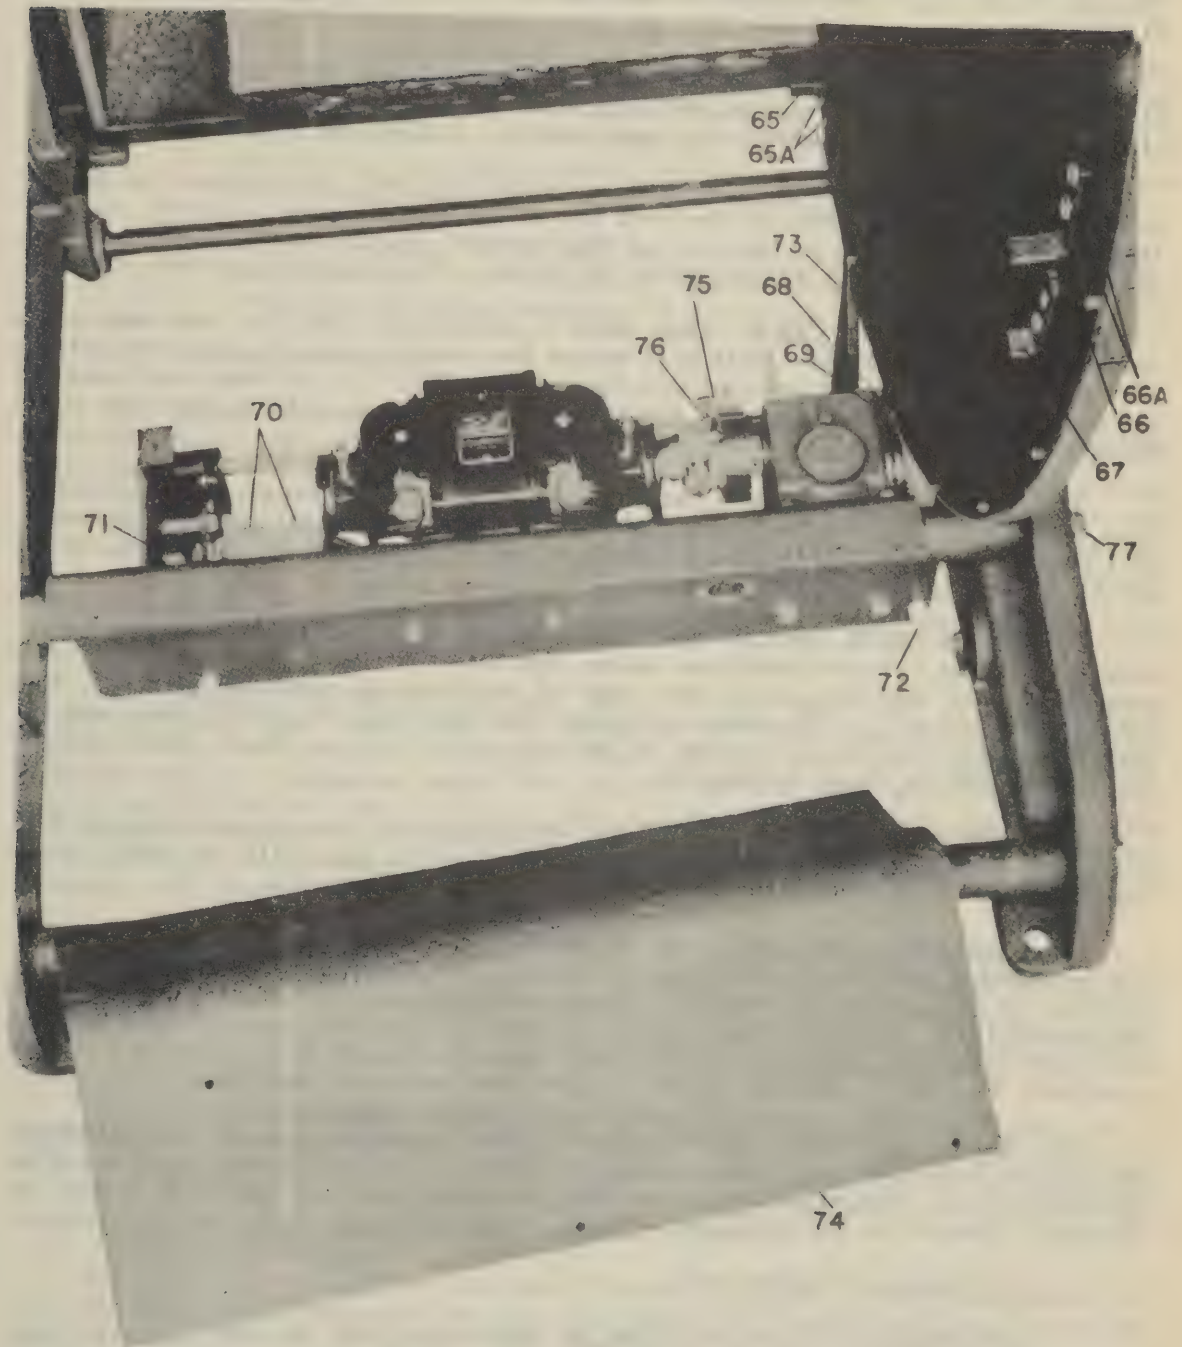

FIG. 8
28. MOTOR DRIVE CENTURY - The installation of the motor drive Century unit is exactly the same as that for the hand rock Century except that the motor supply line must be connected. To do this, remove the cover #74 Fig. 8 and connect the motor line cable at the terminal panel #70, and clamp it by means of the clamp at #71. Replace the cover #74, making sure that all screws are drawn up securely. It would be well at the time of installation to add a few drops of a good grade of machine oil to the motor. A few drops of oil should be added to the motor every six months.
38. MOTOR DRIVE CENTURY-VERTICAL POSITION - If the tilt table does not stop in the true vertical position, loosen the screws at #65A Fig. 8 and shift the stop #65 toward the foot end of the table if the table is short of vertical, and toward the head end if the table is beyond the vertical. Several trials may be necessary before the final position of the stop #65 Fig. 8 is found. Be sure that the screws #65A are drawn up securely.
40. HORIZONTAL POSITION - If the table stops consistently below or above the horizontal position regardless of whether the table is operating from the vertical to horizontal or from the Trendelenberg to horizontal, then adjust the horizontal lever stop #67 Fig. 8 until the head of the table stops 33-1/4" above the floor without a patient. If the table is made to stop a little high without a patient, then with a patient it will stop at the horizontal position.
41. If the table stops below horizontal when coming up from the Trendelenberg position or above horizontal when coming down from the vertical, or vice versa, then the #10-32 Allen head adjusting screws #68 and #69 in the lever #73 Fig. 8 must be adjusted. Proceed in the following manner:
42. BRAKE ADJUSTMENT - If the table has a tendency to coast, particularly with a heavy patient, then the brake must be adjusted. Remove the cover #74 Fig. 8 and loosen the nut at #76 and back out the screw at #76 bearing against the brake lever #75. Usually about one-half turn of the screw will be sufficient. Be sure that the lock nut at #75 is tightened and check operation of the table. Extreme care must be observed in making this adjustment so that the screw is not backed out so far as to cause the motor reversing switch to remain closed when removing the foot from the foot pedal. See that the contact surface between the screw and brake lever #75 is greased.
43. MESHING OF PINION GEAR AND RACK - If the spur gear is not properly meshed with the rack, then loosen the cap nut at #77 Fig. 8 and adjust the nut #72 against the motor support plate until the rack and gear are properly meshed. Turning the nut clockwise causes the gear to go into mesh with the rack, and loosening the nut will cause the spur gear to go out of mesh with the rack. This nut should be adjusted until as much of the spur gear tooth is in mesh with the rack as possible without binding. Be sure that the nuts at #72 are securely locked against each other. Tighten the cap nut #77.
Fig. 8 are the final position stops for the vertical and Trendelenberg positions respectively. #67 is the horizontal position stop and its length projecting from the segment of the table is less than either the vertical or Trendelenberg stops, therefore, if the foot pedal is depressed the stops #65, 66 and 67 act against the lever #73, which cuts off the motor supply source. However, if the pedal is pressed forward, the lever #73 is made to clear the horizontal stop #67 and the table will operate between the vertical and Trendelenberg positions, or stops #65 and #66. A spring always returns the foot pedal to the original position so that lever #73 always engages with the horizontal stop #67.